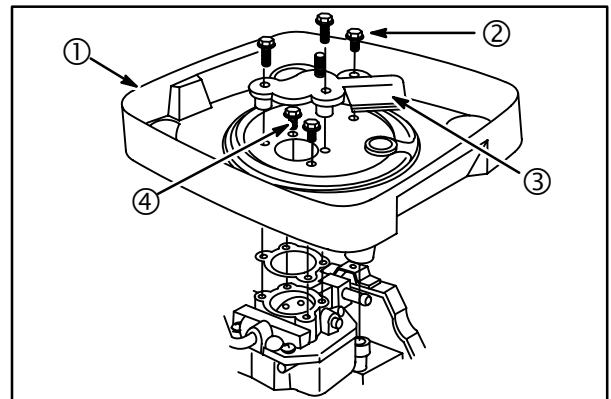

Fig. 40
2. Guide breather tube onto breather nipple. Install air cleaner base (1) on carburetor and support bracket, **Fig. 40**.